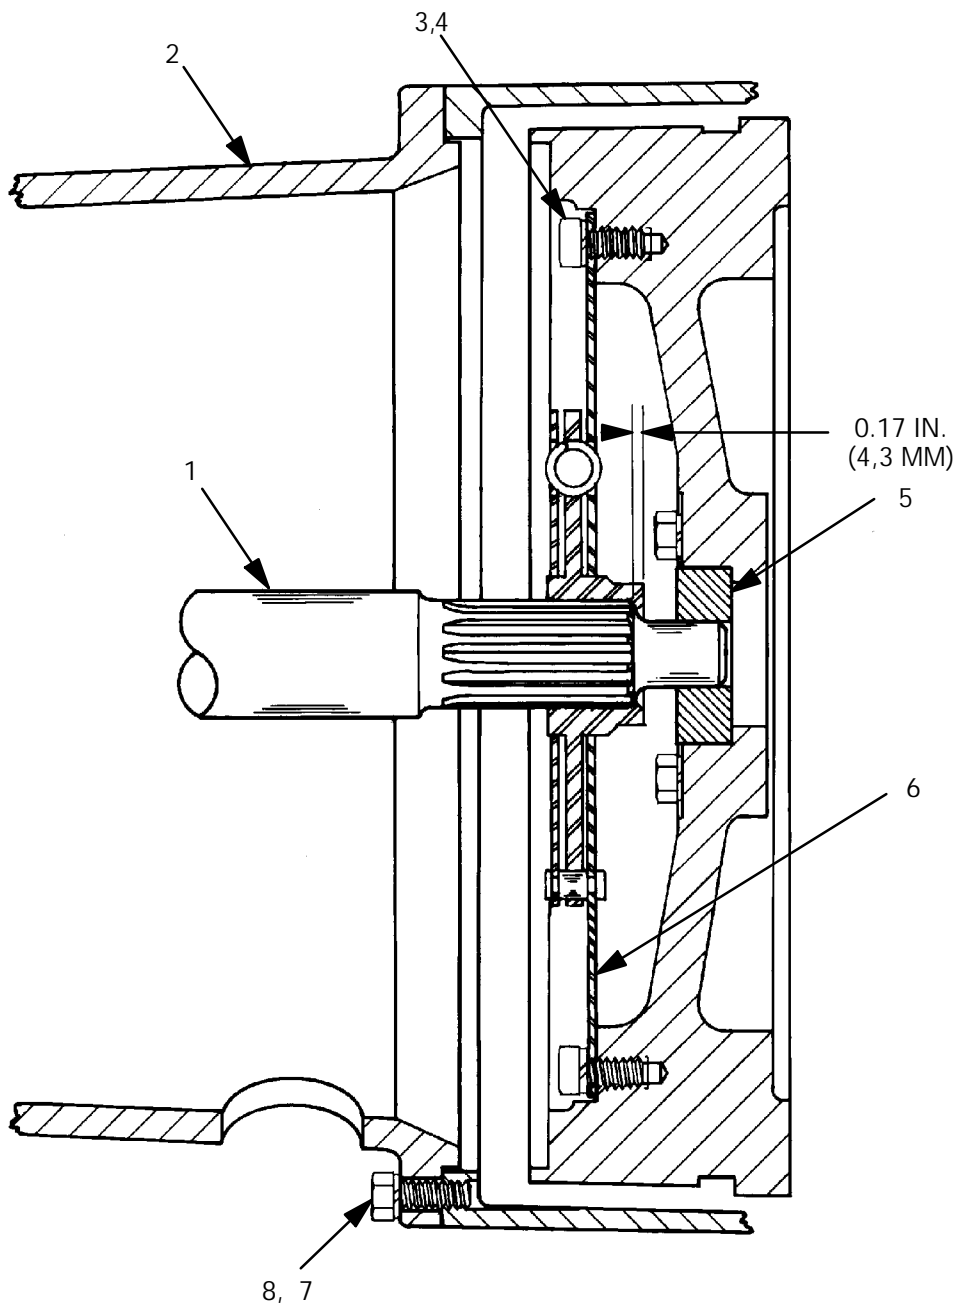

Figure 3. Drive Assembly For 64B2-(F5L)
Support the pump casing and intermediate using a suitable hoist and sling, and remove the hardware (7 and 8, Figure 3) securing the intermediate to the engine bellhousing. Separate the assemblies by pulling the intermediate straight away from the engine. As the assemblies separate, the impeller shaft (13) will disengage from the drive plate assembly (6, Figure 3).
(Figure 3)